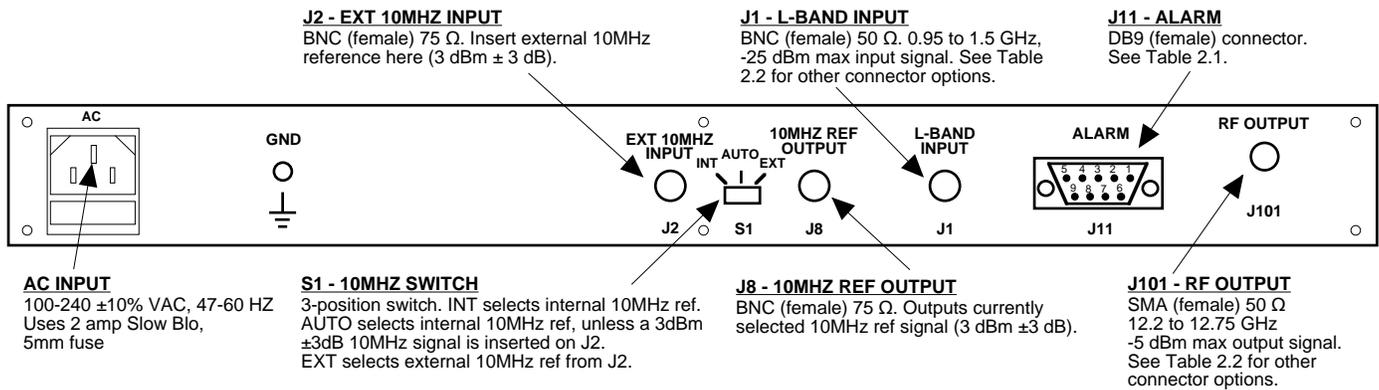

FIGURE 2.1 2115-125 Rear Panel I/O's
2.2 Rear Panel Input/Output Signals - Figure 2.1 shows the input and output connectors on the rear panel.
1. Connect a -40 dBm to -25 dBm signal to L-BAND INPUT, J1 (Figure 2.1).
6. Select either INT (for internal 10MHz ref), AUTO (for internal 10MHz ref UNLESS an external 10MHz, +3 dBm signal is connected to J2), or EXT (for external 10MHz, +3 dBm ref that is inserted at J2) on rear panel switch S1 (Figure 2.1).
8. Check that a 10MHz, +3 dBm \pm 3 dB signal is present at the 10MHZ REF OUTPUT (J8) (Figure 2.1).